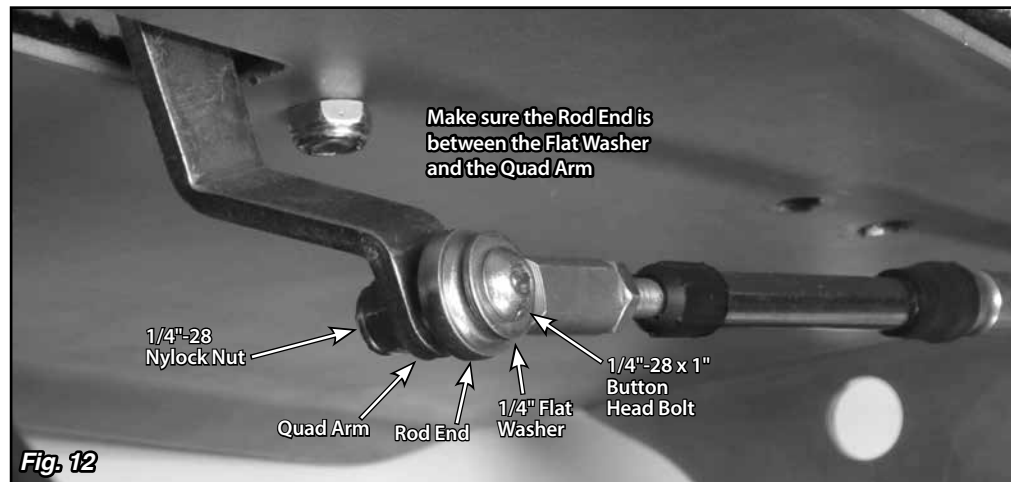

Fig. 12
Step 15: Route the cable up to the Shifter and attach the other rod end to the quad arm using a 1/4"-28 x 1" button head bolt, flat washer, and nylock nut. **Fig. 12** The button head bolt can be installed from either direction, but make sure the rod end is sandwiched between the quad arm and the flat washer. When routing the cable, make sure that it is not touching the exhaust or any moving parts. The cable should be routed as smoothly as possible without any sharp bends.